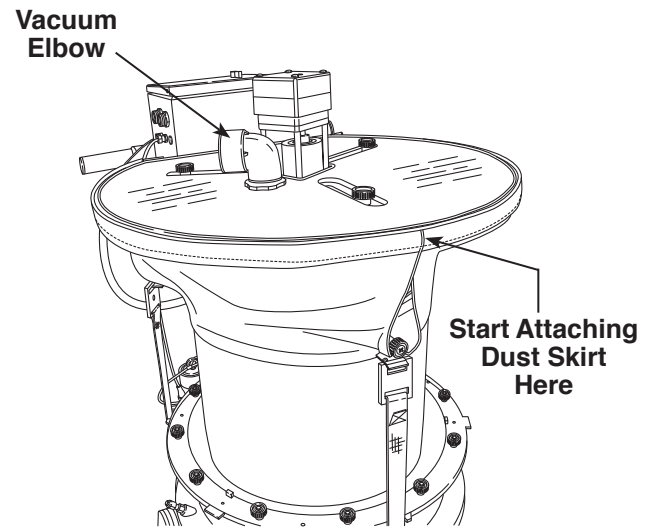

Figure 12
3. Raise the dust skirt, and start attaching the fastening tape to the hood at a point 180° from the flat edge of the hood. See Figure 12.